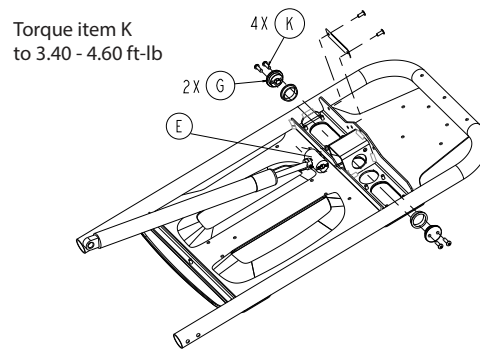

Figure 16 – Remove the button head cap screws
4. Using a T25 Torx driver, remove the two button head cap screws (K) that secure the gas spring yoke end (G) to the gas spring yoke (E) on the patient left side (Figure 16). Save the screws.